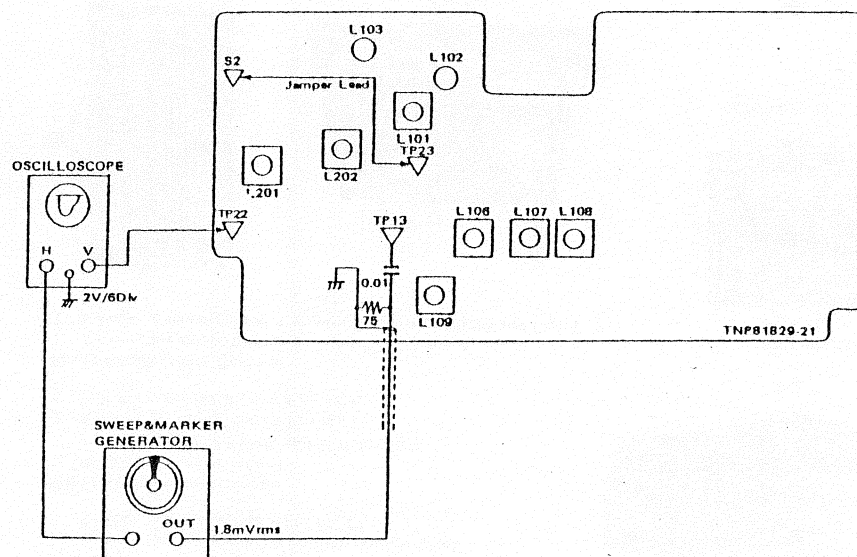

Fig.16
3. Sweep & Marker generator and oscilloscope...connect and set shown in Fig.16.
4. Connect the jumper lead between S2 and TP23 as shown in Fig.16.